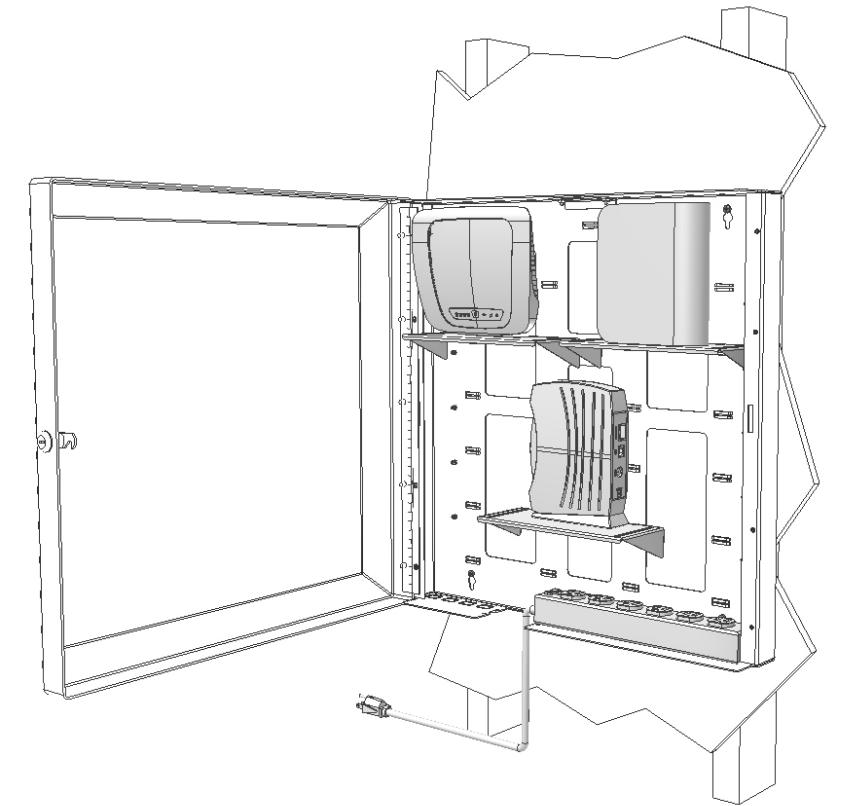

Figure 2
Step 3 – Place the networking components on the shelves, or fasten to back box (Figure 2). Cut and use the Velcro straps to secure the networking components. Wireless